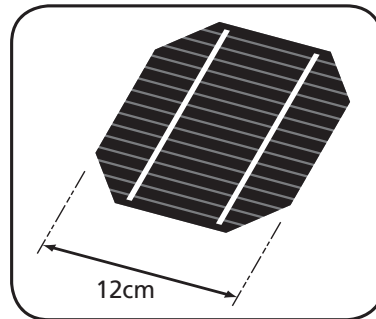

Fig. 2.3. PV / Solar Cell
The basic element of a PV System is the photovoltaic (PV) cell, also called a Solar Cell. An example of a PV / Solar Cell made of Mono-crystalline Silicon is shown in Fig. 2.3. This single PV / Solar Cell is like a square but with its four corners missing (it is made this way!).